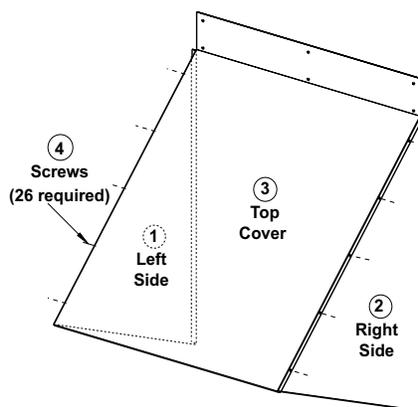

Figure 12. Exhaust Hood Assembly
| Item No. (See Figure 12) | Component | Description | Unit Size | |
2. Undo exhaust hood component bundle and identify items 1, 2, and 3 shown in Figure 12.
4. Position hood side panel (item 1 or 2) with flange out as shown in Figure 12. Align panel holes with holes in cabinet. Attach side panel to cabinet with screws (item 4).
5. Repeat with opposite side panel (item 1 or 2).
6. Position hood top (item 3) UNDER edge of cabinet top and OVER installed side panels. Using six screws, attach hood top to cabinet and to both side panels as shown in Figure 12.